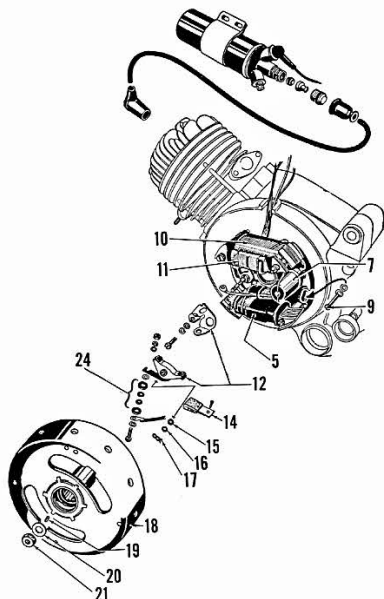

Fig. A1-3—View of the flywheel electrical system typical of all models. On some early models, ignition coil may be at 10 instead of location 5.
IGNITION AND ELECTRICAL. A flywheel type magneto is used and consists of three systems. The ignition primary coil (5—Fig. A1-3), head and tail light coil (10), stop light coil (11) and ignition points (12) are located on left side of engine under the flywheel (18). Ignition points should be set to 0.4 MM (0.016 in.) fully open. With ignition point gap correctly set, ignition timing should occur with piston 1.8 MM (0.07087 in.) BTDC on 50cc models; 1.0 MM (0.03937 in.) on